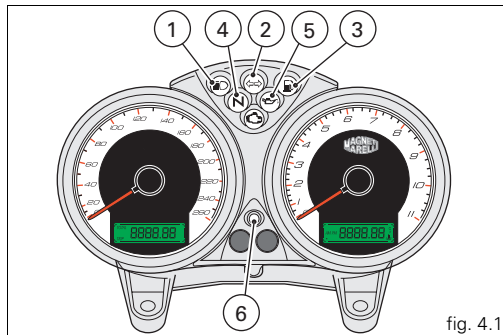
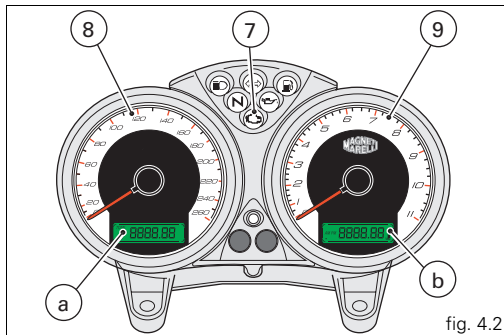
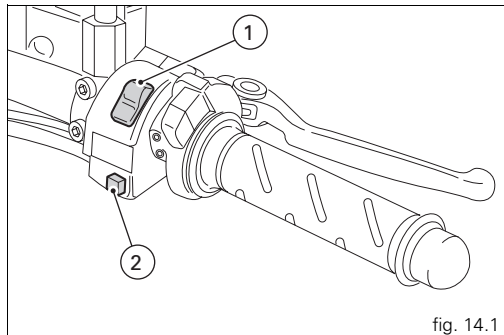

fig. 4.1
fig. 4.2
fig. 14.1
Instrument panel (fig. 4.1 and fig. 4.2)
In the event of faults in the immobilizer system, the following procedure makes it possible to disable the "engine lock" function, which is indicated by the yellow-amber EOBD warning light (7, fig. 4.1).
The EOBD warning light (7, fig. 4.1) will go off after the pre-set time of 8 seconds.
Count the number of flashes of the EOBD (7, fig. 4.1) light equal to the first number of the secret code.
When the ignition key is turned from ON to OFF, the immobilizer system activates the engine lock. When the ignition key is turned from OFF to ON to start the engine: if the code is recognised, the warning light (6, fig. 4.1) on the instrument panel will flash briefly. This means that the immobilizer system has recognised the code and disabled the engine lock. When you press the START (3, fig. 14.1) button, the engine will start up.
2) If either the warning light (6, fig. 4.1) or the EOBD light (7, fig. 4.1) remain lit, the code has not been recognized. In this case, it is advisable to turn the ignition key back to OFF and then to ON again. If the engine still does not start, try using another black key.
Right-hand handlebar switch (fig. 14.1)